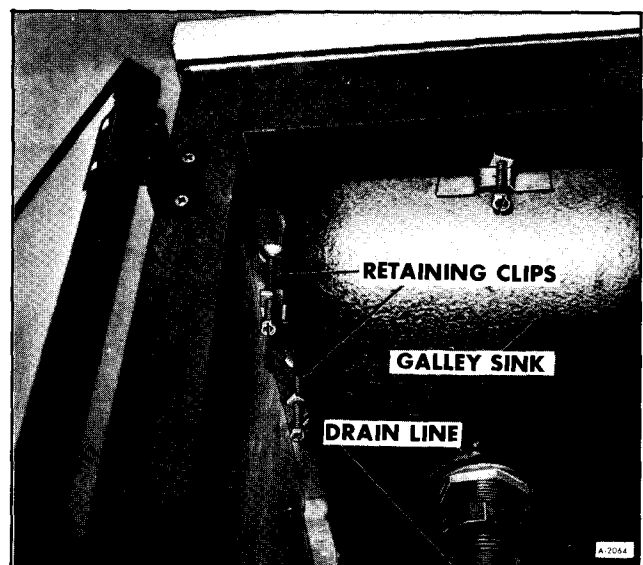

Figure 47—Sink Retaining Clips
3. Remove sink retaining clips (See figure 47).
1. Position sink into place and secure with clips (figure 47).